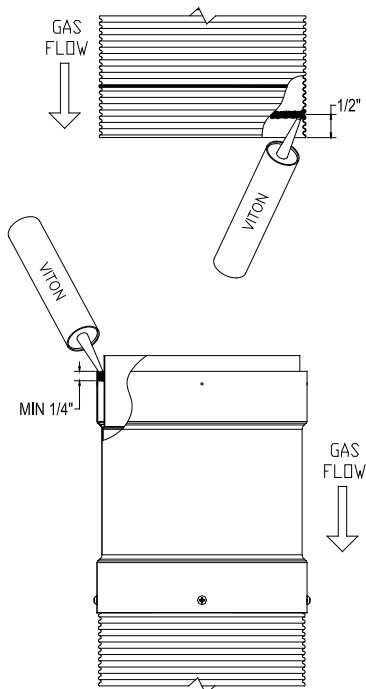

Figure 22 -SecureSeal Flex Viton® caulking
- 3.2. Add another bead of Viton® caulking at 1/2" from the edge of the flexible liner all around the inner side of it (**Figure 22**).